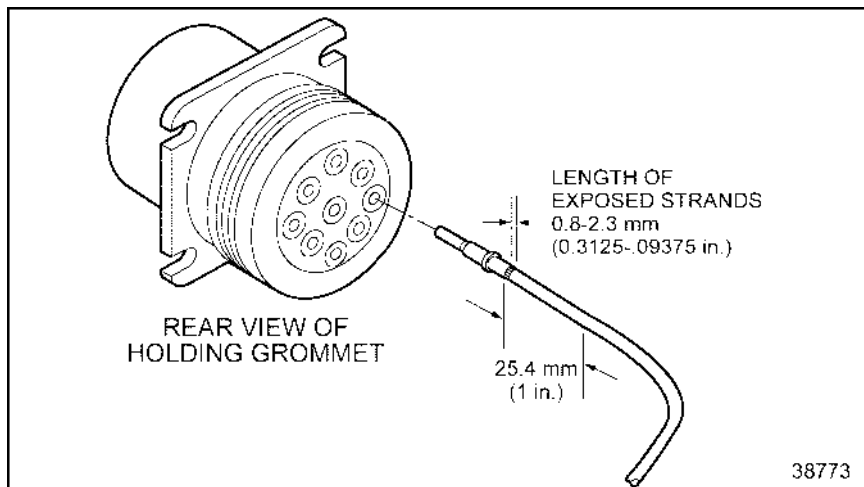
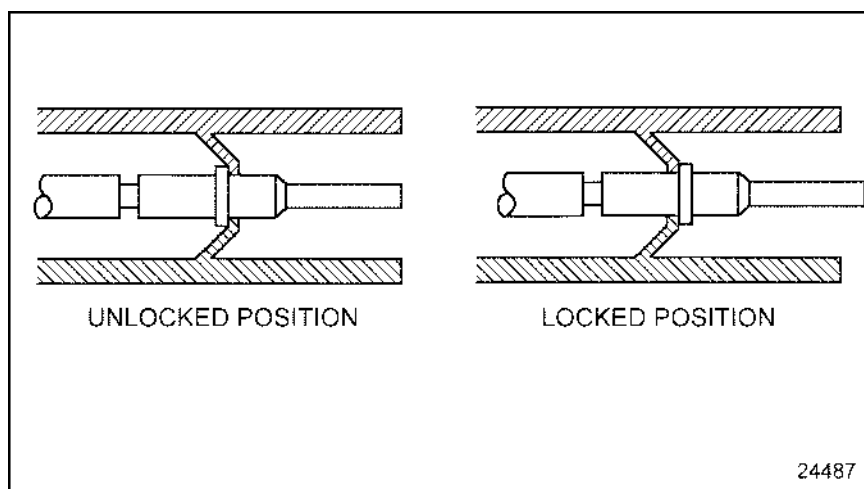

Figure 3-47 Pushing Contact Into Grommet
Figure 3-48 Locking Terminal Into Connector
5. Grasp the contact approximately one inch behind the contact crimp barrel. Hold the connector with the rear grommet facing you. See Figure 3-47.
6. Push the contact into the grommet until a positive stop is felt. See Figure 3-47. A slight tug will confirm that it is properly locked into place. See Figure 3-48.